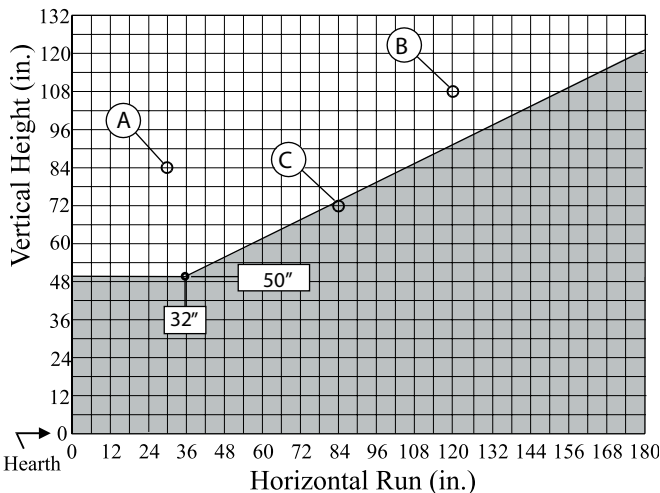

Figure 21. B-Series DV-2 Multi-Elbow Venting Graph.
- your vent run must fall within the limits set by **Figure 21**.
Measure the vertical height from the fireplace hearth to the centre of the termination and the horizontal run from the fireplace flue collar to the wall flange of the termination. Plot on the Venting Graph (**Fig. 21**) with an 'X'.
Venting runs *must* fall within the limits set by the venting graph (see **Figure 21**).